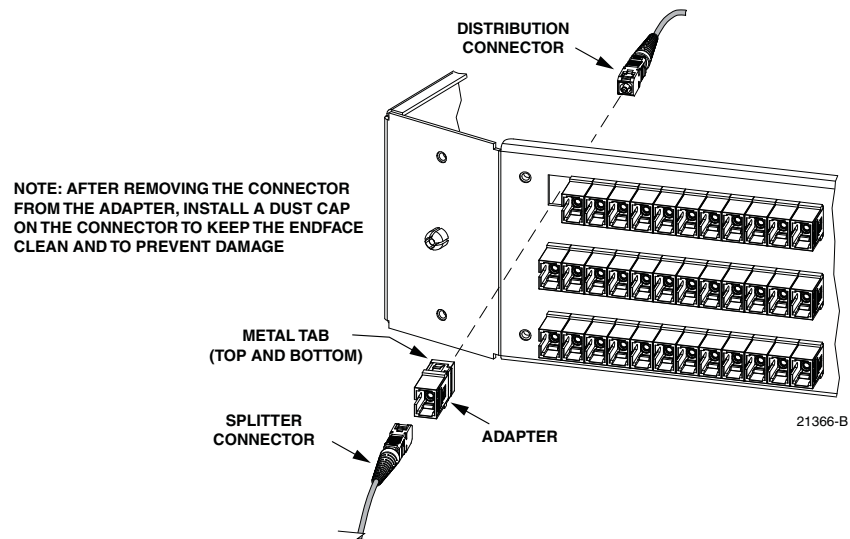

Figure 76. Adapter Removal and Replacement - Typical Distribution Panel
1. Disconnect the splitter connector from the front side of the broken adapter as shown in Figure 76 and install a dust cap on the connector.